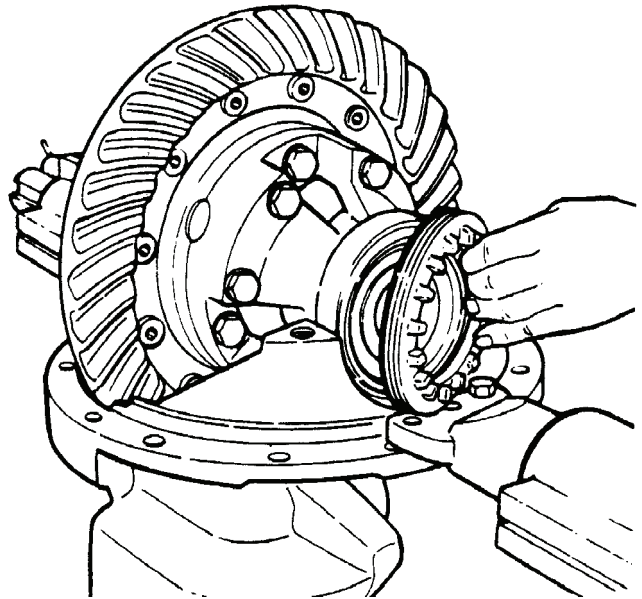

Figure 69.
- (2) Insert bearing adjusting rings and turn hand-tight against bearing cups. Refer to Figure 69.